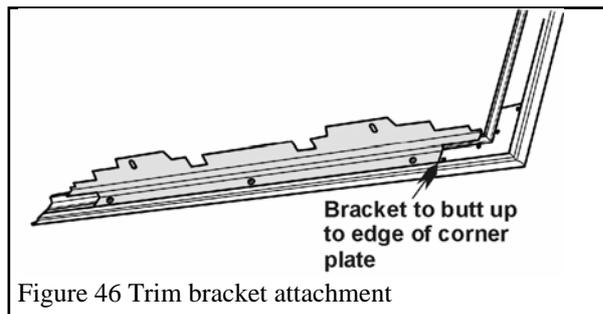

Figure 46 Trim bracket attachment
- Attach the two trim fixing brackets to the side trims with three screws each side. The brackets must butt up to the edges of the corner connection plates. See figure 46.